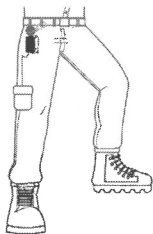

Fig. 4 Hanging on the waist
- As walking, you may hang it on your waist (Fig. 4)